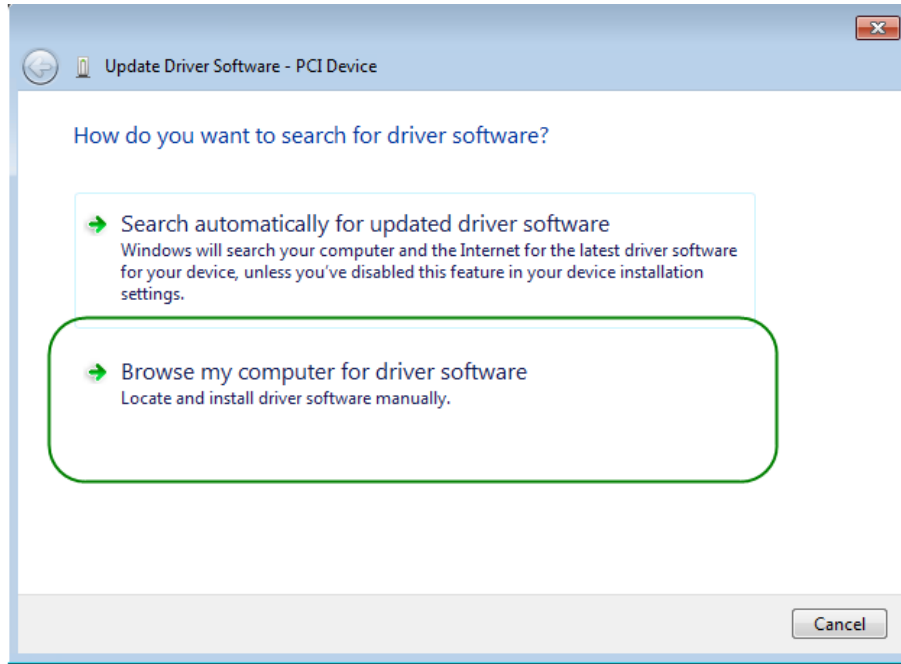

Figure 7-5 Dialog of Browse my computer for driver software
8. In the **How do you want to search for driver software** dialog, click **Browse my computer for driver software** item, as shown in Figure 7-5. Click “OK” and then “Exit” to close the installation program.